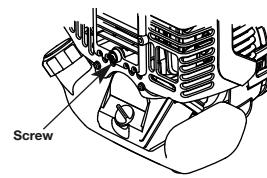

Fig. 34
- Remove the screw behind the engine cover with a Flat-head or T-25 Torx screwdriver (Fig. 34).